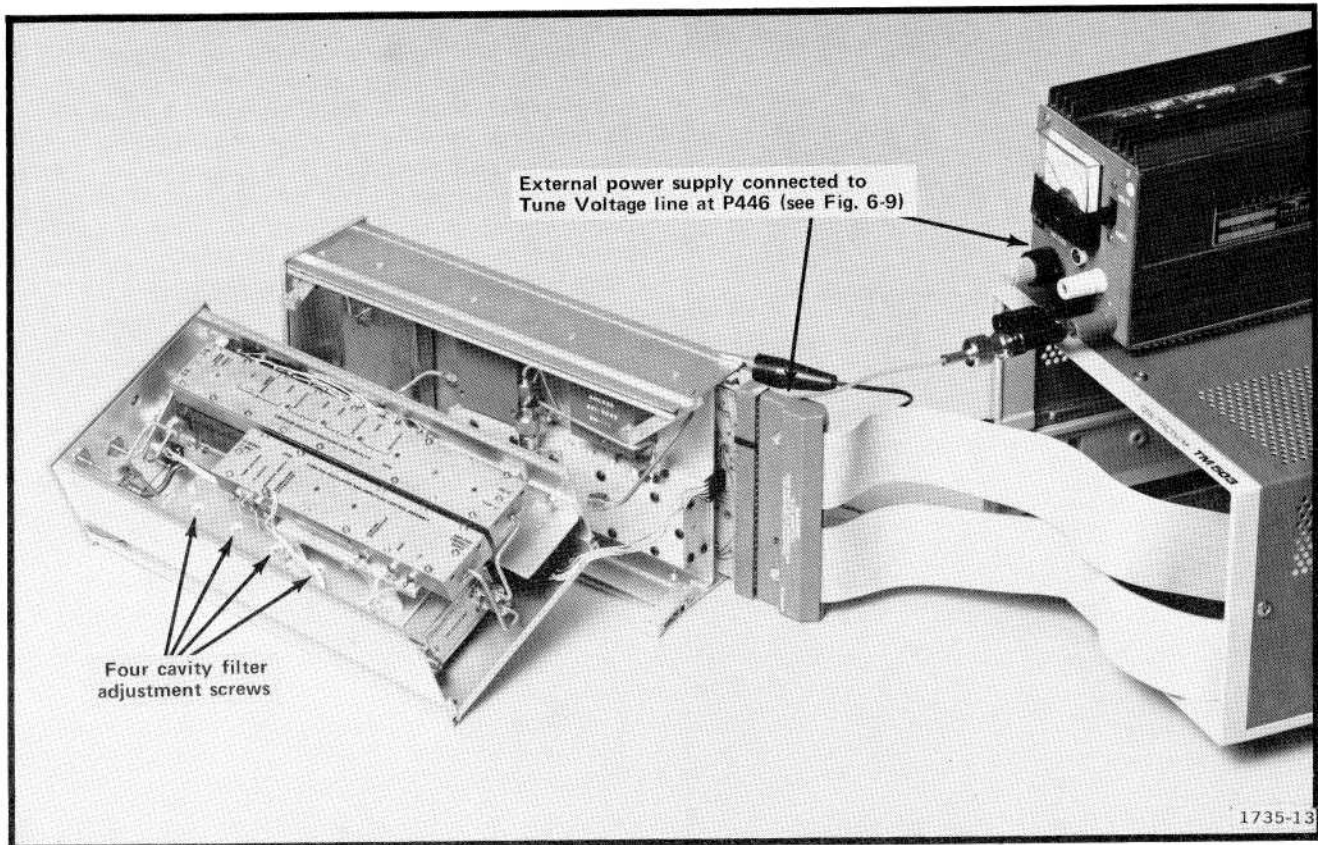
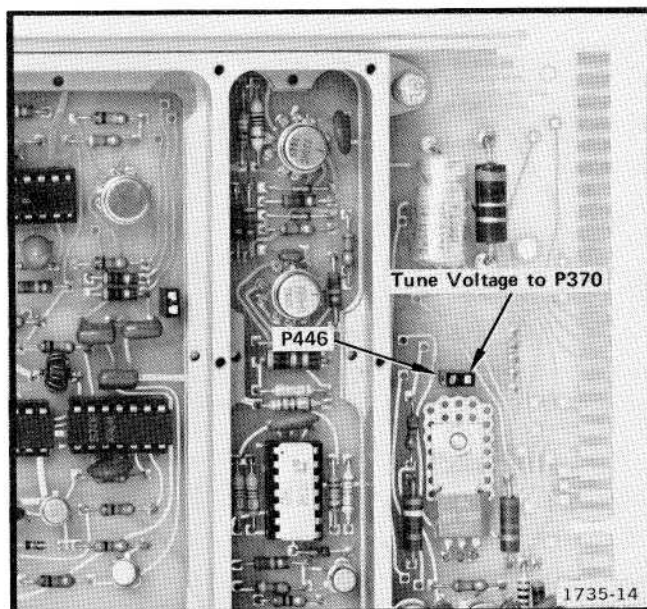

Fig. 6-8. Positioning the TR 502 to adjust the 2.2 GHz filter and mixer assemblies.
Fig. 6-9. Location of P446 on the Mother board.
- a. Separate the two sections as previously described and position the two sections so the filter adjustments are accessible. Remove P446 (Tune Voltage Line, Fig. 6-8). Reconnect P370 and P210 to the Mother board and Leveling Loop and Bias board. Connect the + terminal of an external power supply to the Tune Voltage terminal of the 2.095 GHz Oscillator and Amplitude Control microwave assembly or the oscillator pin side of J446 (see Fig. 6-9). Adjust the power supply output for +7 volt then switch the TM 500 mainframe power on.